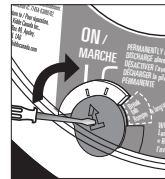

Figure 11.2-B
- Locate the red wheel on the back of the device. Turn the red wheel to the “ON” position on the device using a standard screwdriver. (Figure 11.2-B)